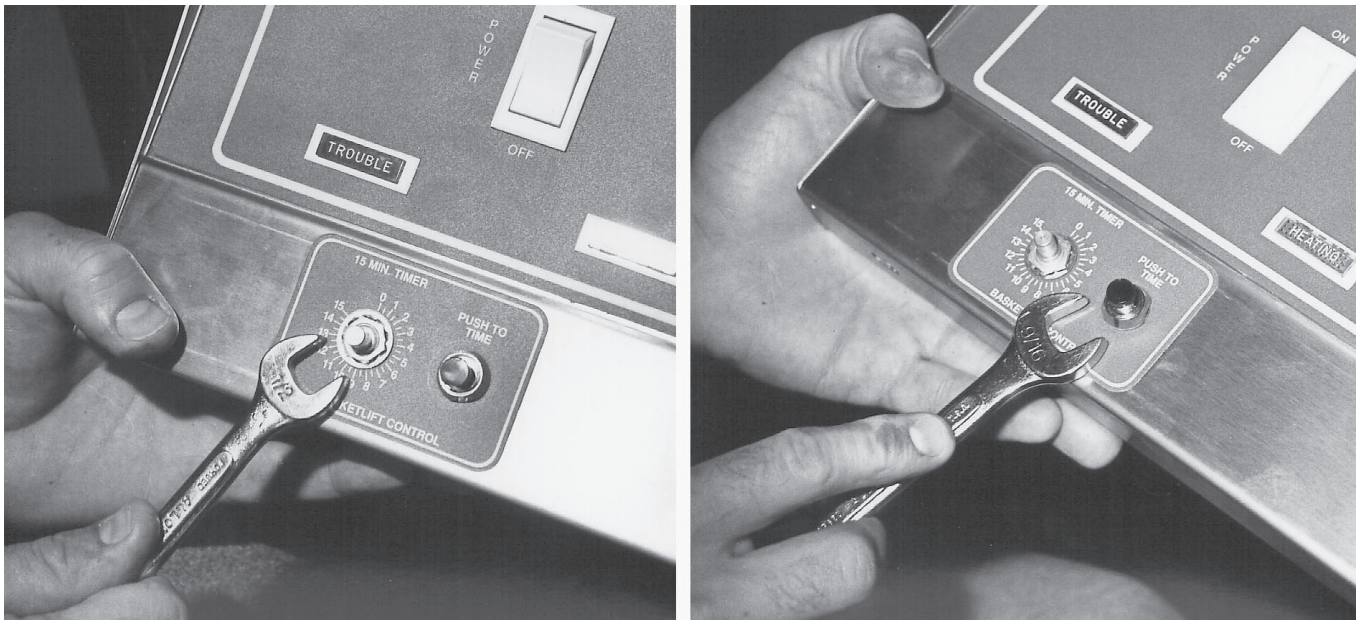

Fig. 19
2. Remove the timer mounting hardware. (Fig. 19)